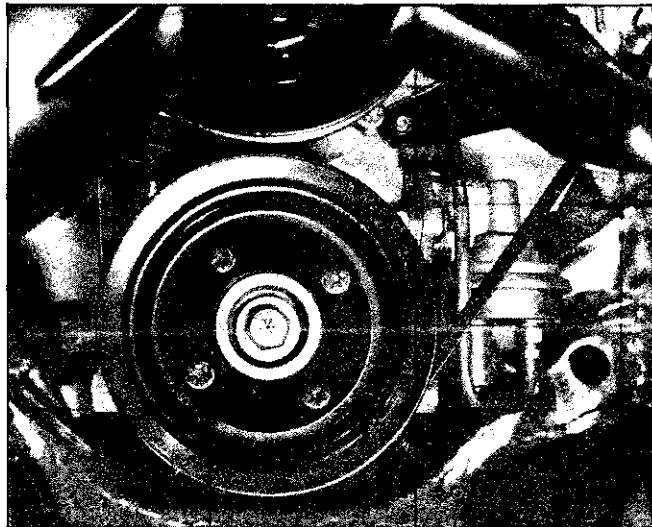

Fig. 6-93 Harmonic Balancer
2. Position fan so wide angles will be at top and bottom allowing access to balancer (Fig. 6-93).